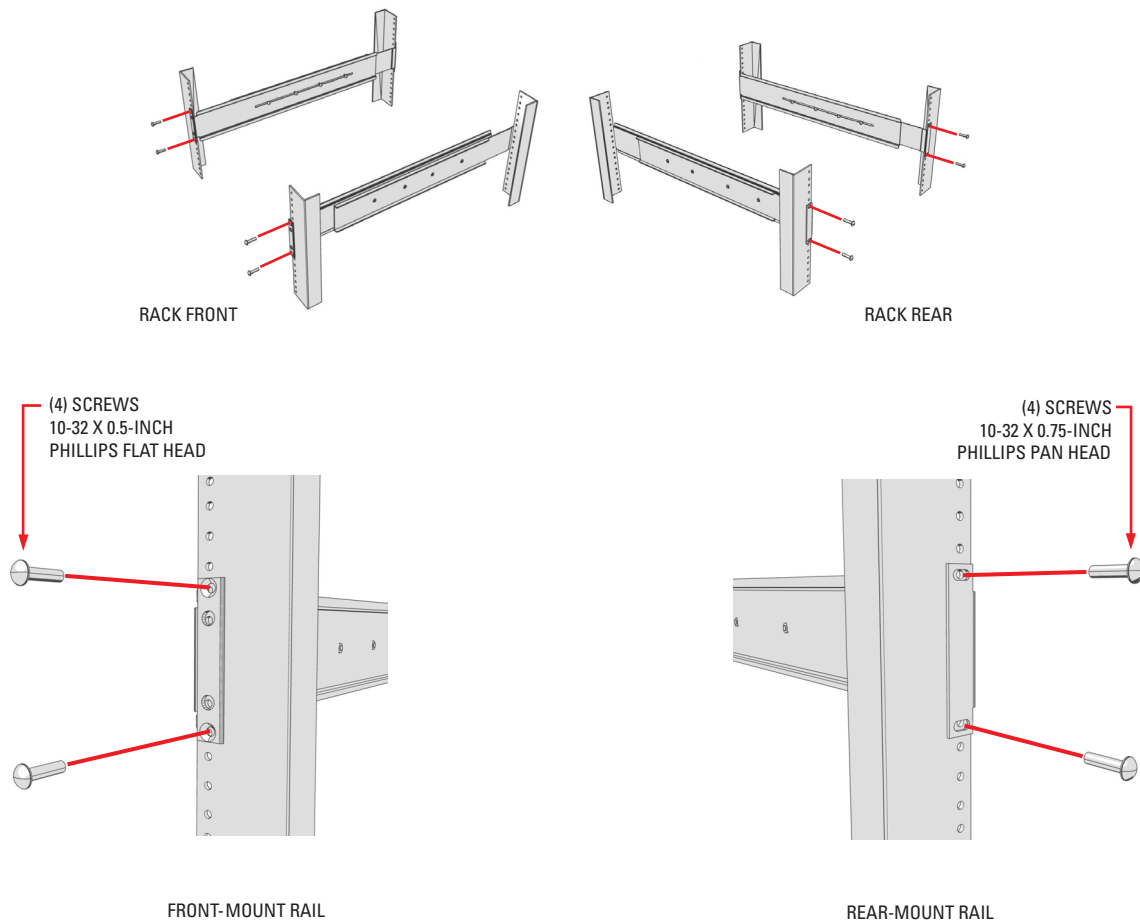

Figure 12. Attaching Support Rails
6. Attach one support rail assembly to the equipment rack in the desired location (refer to Figure 12):